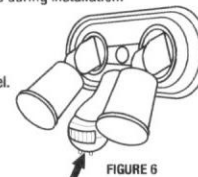

FIGURE 6
- Aim the Motion Sensor (Figure 6) to the desired target area.